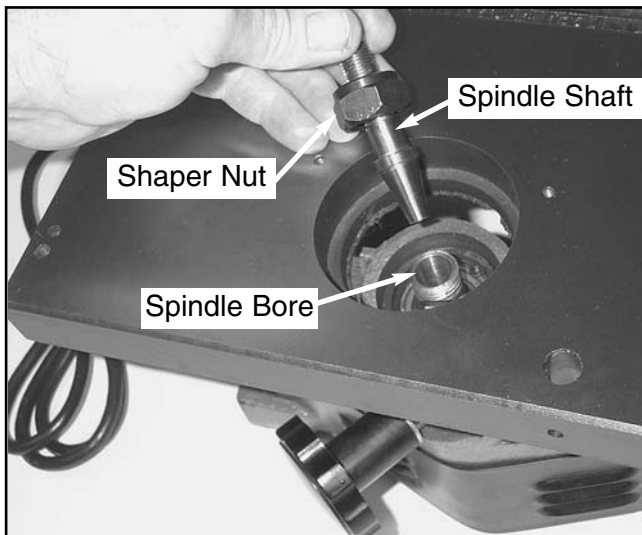

Figure 2. Set Spindle into hole.
1. Place the Shaper Nut (REF 36) onto the Spindle Shaft (REF 35) and insert the Shaft into the Spindle Bore. See **Figure 2**.